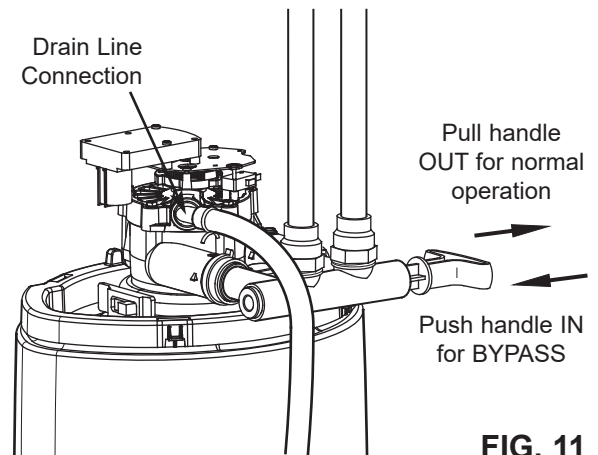

FIG. 11
1. Measure, cut to needed length, and connect the 3/8" drain line (provided) to the Central Water Filtration System valve drain fitting (See Figure 11). Use a hose clamp to hold the hose in place.
1. Make sure the single bypass valve (or 3 valve bypass, if installed) is in the bypass position, with the handle pushed in (See Figure 11).
4. Slowly move the bypass valve(s) to the normal operation position, pausing several times to allow the unit to pressurize slowly (See Figure 11).